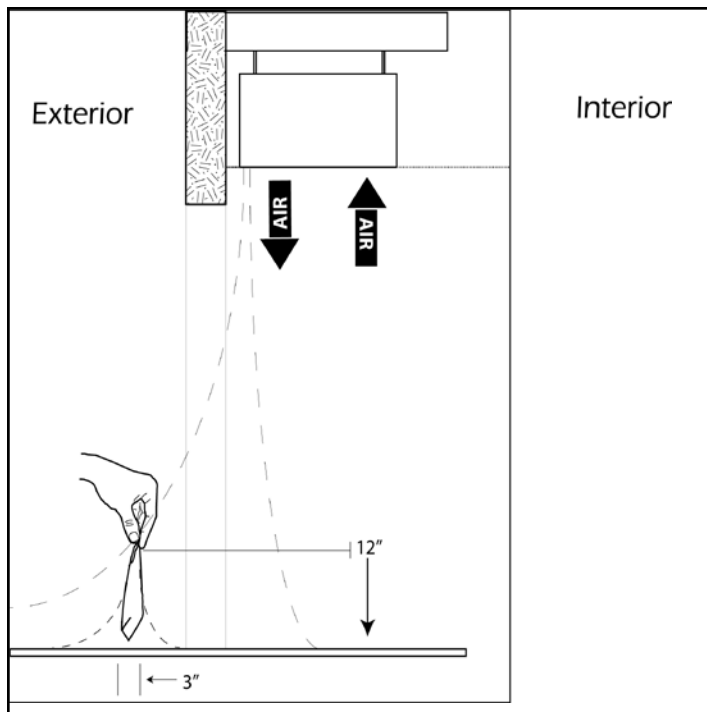

Figure 5
- B. Find the air stream split location. Hold a handkerchief, by its corners, approximately 12" above the floor. Gently move the handkerchief back and forth in the doorway. Make sure the air is being directed to both the inside and the outside. The split location is indicated where the handkerchief is vertical with minimal or no fluttering. **See Figure 5.**